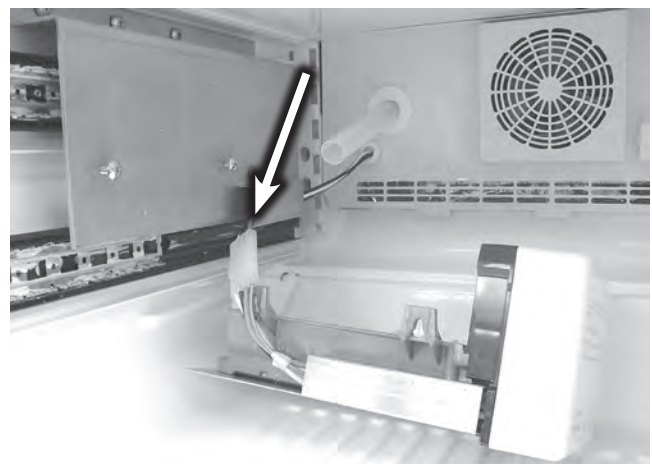

Figure 3
3. Disconnect the wiring harness, see figure 3.